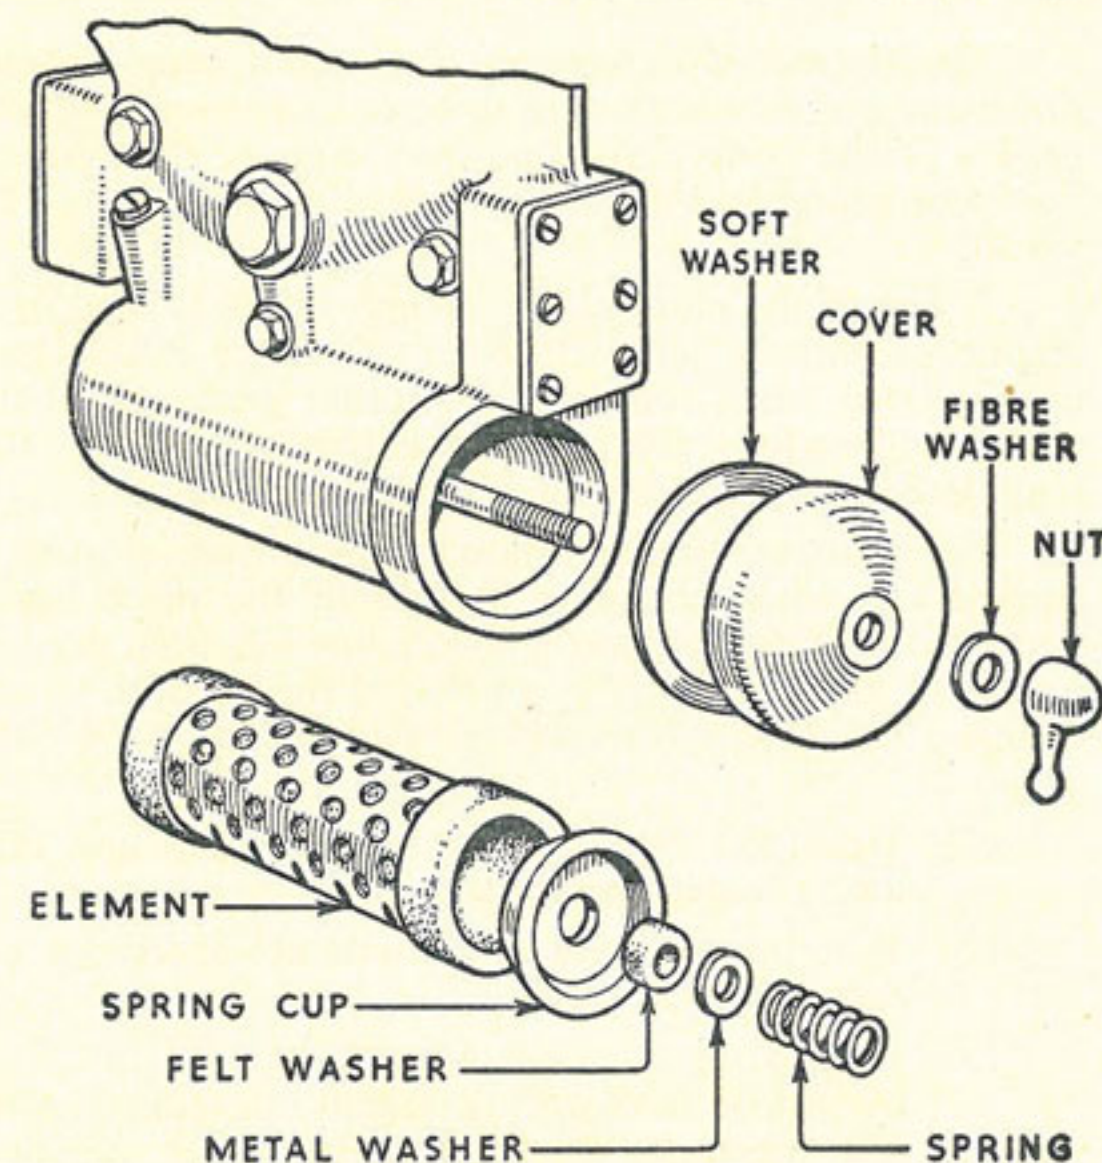

Fig. 6.—Detail of Felt Oil Cleaner.
8. **Felt Oil Filter.** The construction of this is clearly shown in Fig. 6. The felt filter element should be cleaned by washing in petrol every 2,000 miles and in addition the element should be renewed every 5,000 miles.